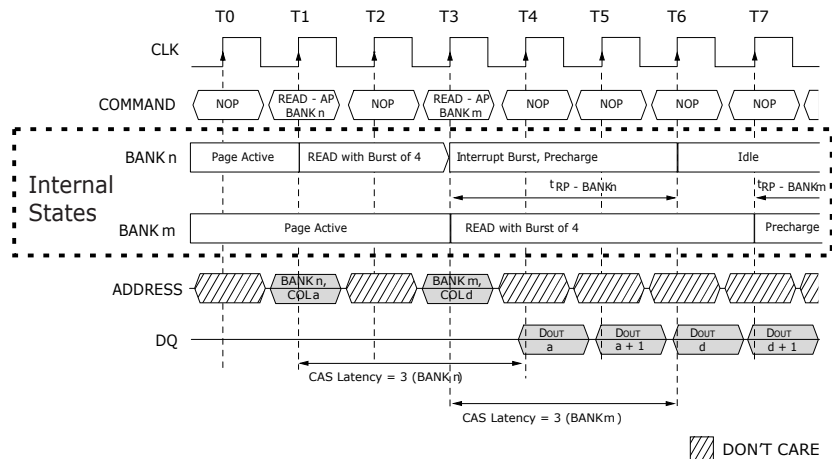

Figure 48. Read with Auto precharge Interrupted by a Read
1. Interrupted by a Read (with or without auto precharge): A Read to bank *m* will interrupt a Read on bank *n*, two or three clocks later, depending on CAS latency. The precharge to bank *n* will begin when the Read to bank *m* is registered (Figure 48).